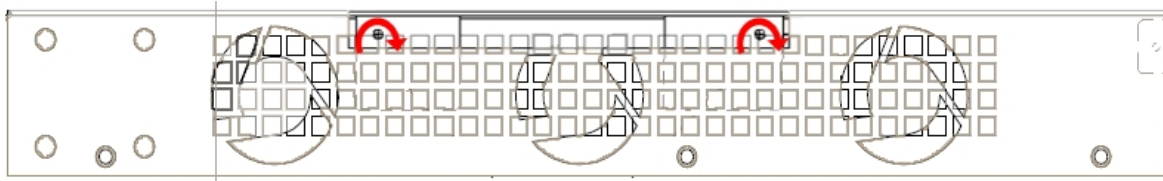

Fig. 14: Rearrange the screws on the top panel flap
- (10) Reposition the top panel flap and screw it into place using the screws. Please see Fig. 14 on page 11.
- (11) Rearrange the top panel flap and screw it into place using the screws. Please see Fig. 14 on page 11.
- (12) Connect and switch on the device, as described in section Connecting on page 19. Should you detect any problems, switch off the device and make sure that the above steps have been carried out correctly. If the problem